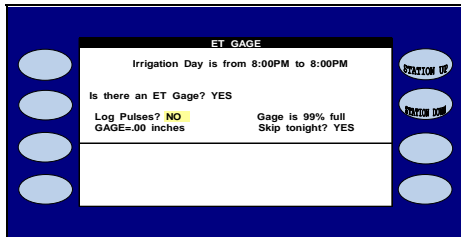

Figure 5.6
6.  Press the blue **ARROW** keys to move the cursor to the LOG PULSES? entry (Figure 5.6).